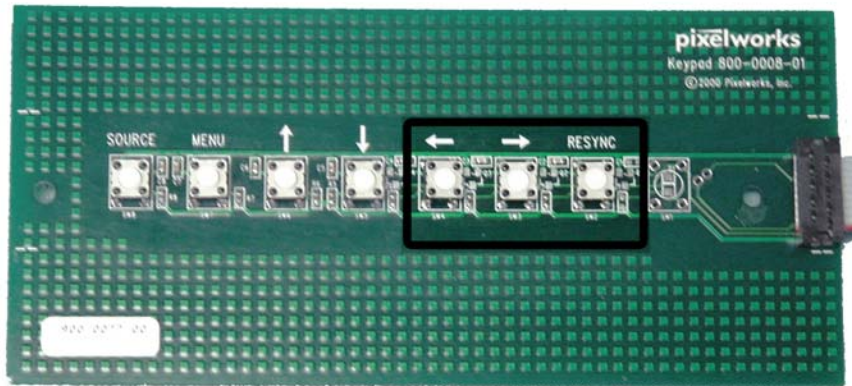

Figure 1. Keypad Buttons
17. Cycle power to the board by removing and replacing the power cord. Perform a reset by simultaneously pressing the three buttons on the keypad closest to the ribbon cable (see Figure 1), then cycle power again.